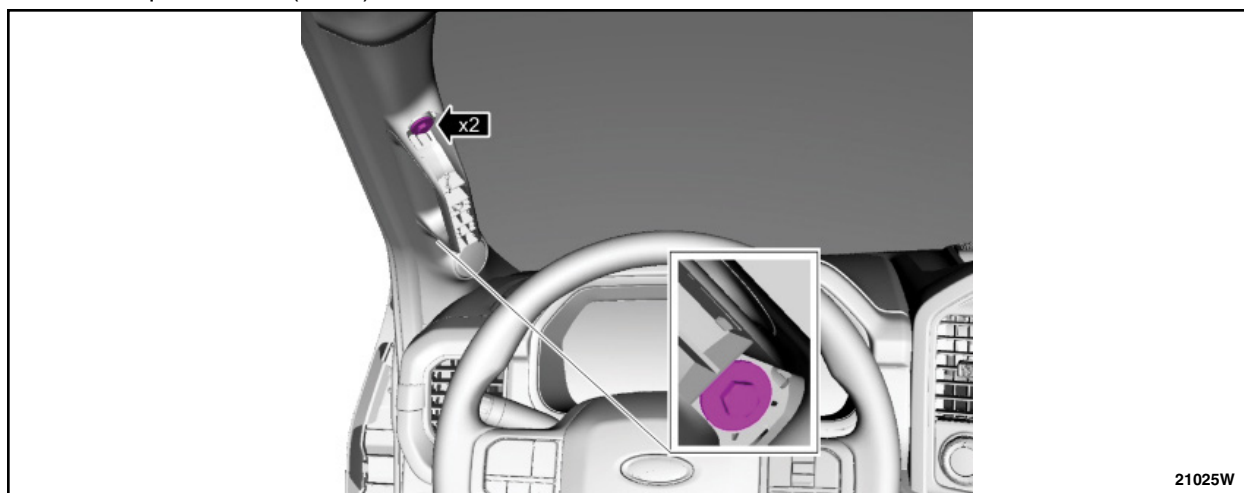

FIGURE 14
14. Remove the assist handle bolts. See Figure 14.